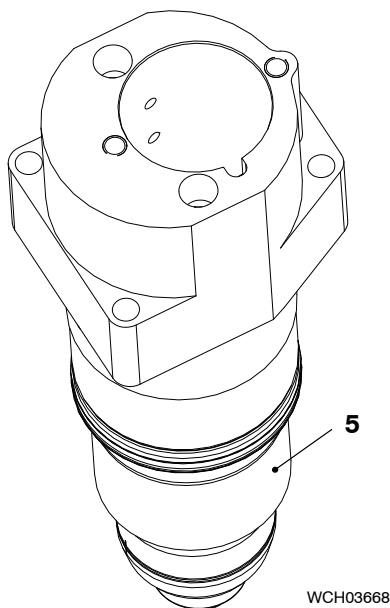

Fig. 7
- 2) Remove all pipes and connectors from the holder (4, Fig. 7)
- 3) Loosen the two bolts (3) one turn.
- 4) Remove the four bolts (1).
- 5) Attach two M12 eye bolts to the threads (3).